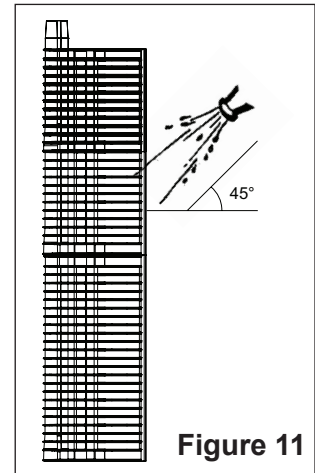

Figure 11
8. Using a garden hose with a straight flow nozzle, wash down the entire element. Wash from the top down, holding the nozzle at a 45-degree angle to the element (see **Figure 11**).